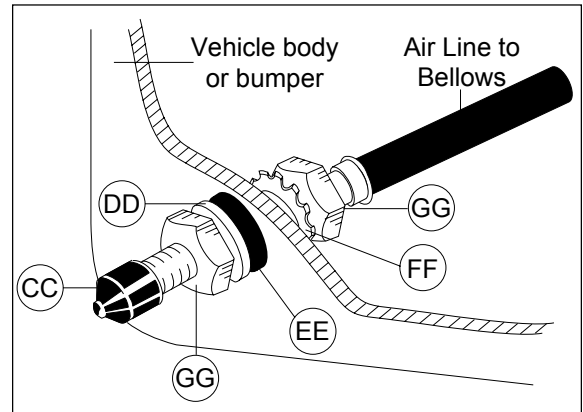

Figure 5
2. Cut the air line assembly (AA) in two equal lengths. *CAUTION: When cutting or trimming the air line, use a hose cutter (Air Lift P/N 10530), a razor blade or a sharp knife. A clean, square cut will ensure against leaks. Do not use wire cutters or scissors to cut the air line. These tools may flatten or crimp the air line, causing it to leak around the O-ring seal inside the elbow fitting.*
3. Place a 5/16" nut (GG) and a star washer (FF) on the air valve. Leave enough of the inflation valve in front of the nut to extend through the hole and have room for the rubber washer (EE), flat washer (DD), and 5/16" nut (GG) and cap (CC). There should be enough valve exposed after installation - approximately 1/2" (13mm) - to easily apply a pressure gauge or an air chuck (Figure 5).
4. Push the inflation valve through the hole and use the rubber washer (EE), flat washer (DD), and another 5/16" nut (GG) to secure it in place. Tighten the nuts to secure the assembly in place (Figure 5).
5. Route the air line along the frame to the air fitting on the air spring. Keep at least 6" (150mm) of clearance between the air line and heat sources, such as the exhaust pipes, muffler, or catalytic converter. Avoid sharp bends and edges. Use the plastic zip ties (BB) to secure the air line to fixed, non-moving points along the chassis. Be sure that the zip ties are tight, but do not pinch the air line. Leave at least 2" (50mm) of slack to allow for any movement that might pull on the air line.